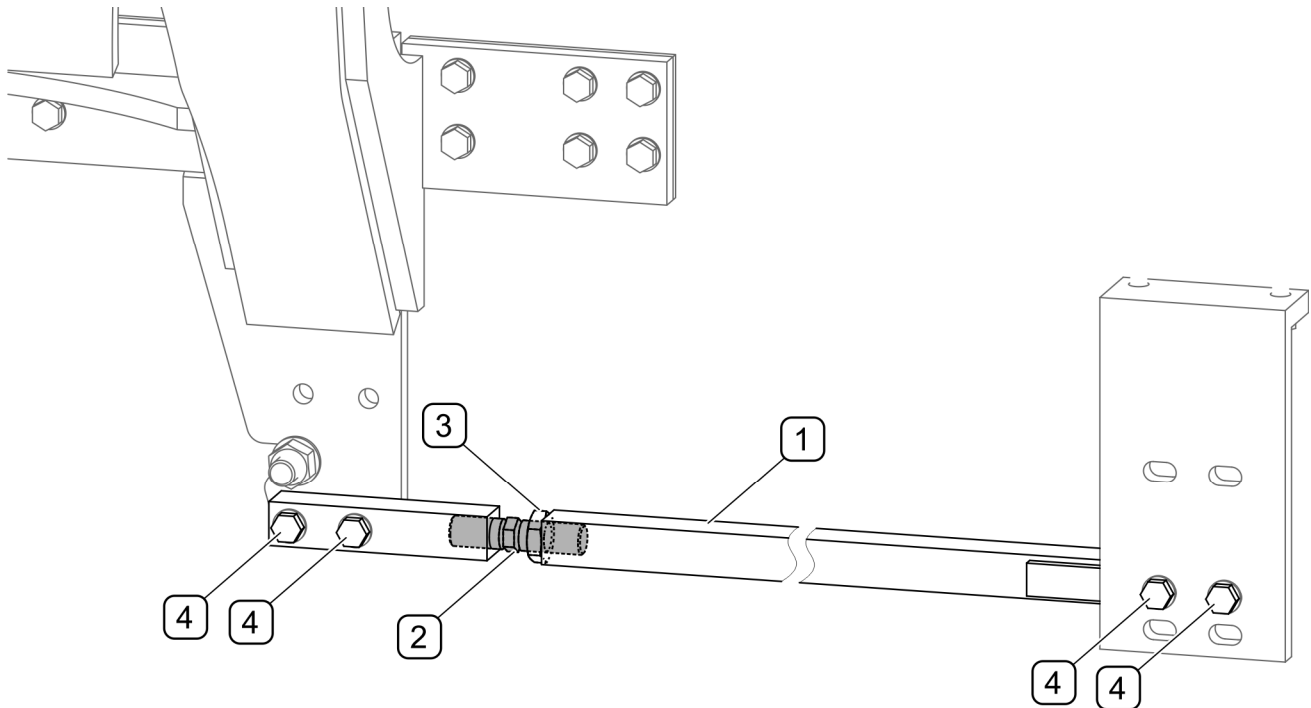

FIGURE 4.2 Tightening the brace rods of the loader's support frame (Pronar 1025A / 1025All and Belarus 1025.3)
In the front part, secure brackets (1) and (2) using bolts (18) with washers (22), in the central part, use bolts (18) with washers (20) and nuts (12). In Pronar 1025A tractors, secure the rear part of brackets (1) and (2) using bolts (18) with washers (22); in 1025All tractors use bolts (15) with washers (22). In the place where the battery box is attached, use sleeves (11). Secure brace brackets (4) to the tractor's drive axle using bolts (14) and nuts (12). Using bolts (16) with washers (22) and nuts (18), screw down brace rods (5) and (6) provisionally to brackets (4); connect the other end of the brace rods with brackets (1) and (2) using bolts (16) and nuts (12). Make certain that bottle screws (7) are uniformly screwed out from the brace rod. Secure the lower securing rod (10) and upper securing rod (9) using nuts (13) and washers (21). Tighten the brace rods (FIGURE 4.2)
- in Pronar 1025A / 1025All and Belarus 1025.3 tractors, check and, if necessary, adjust tighteners of brace rods (FIGURE 4.2)